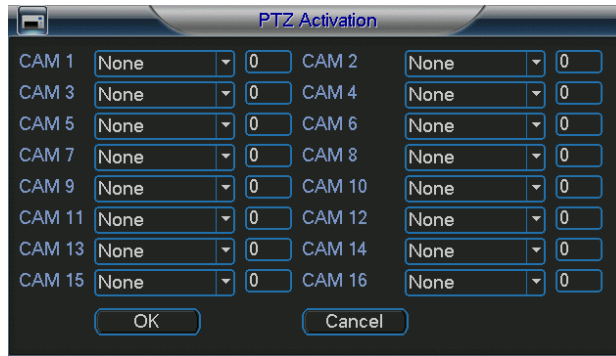

Figure 4-16
- PTZ activation: Here you can set PTZ movement when detection occurs. Such as go to preset, tour & pattern when there is an alarm. Click “select” you can see an interface is shown as in Figure 4-16.
- PTZ activation: Here you can set PTZ movement when detection occurs. Such as go to preset, tour & pattern when there is an alarm. Click “select” to see the interface shown in Figure 4-16.
- PTZ activation: Here you can set PTZ movement when detection occurs. Such as go to preset, tour & pattern when there is an alarm. Click “select” , you can see an interface is shown as in Figure 4-16.